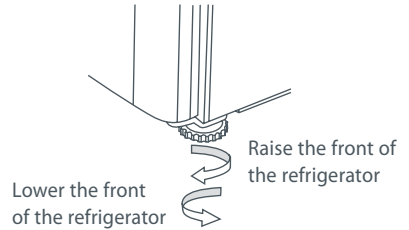

Fig.11 Refrigerator feet
- C Adjust the front feet down until the refrigerator is leaning backward with the front approximately $\frac{1}{2}$ " (10 mm) higher than the back. This will ensure a good door closing action. (Refer to Fig.11).